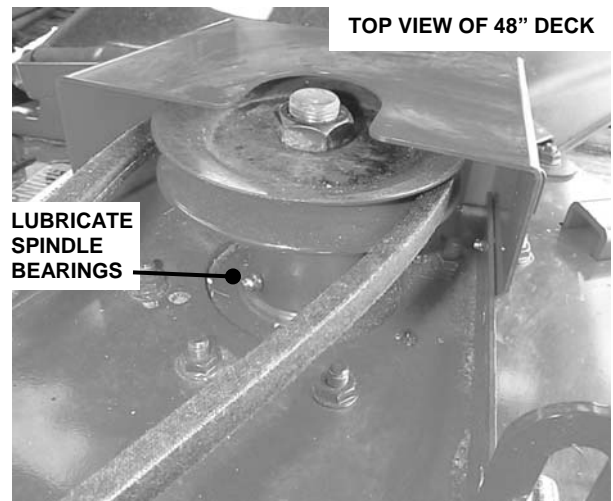

FIGURE 3.6
- a. Lubricate spindle bearings with three shots of general purpose grease from grease gun. See Figure 3.6.